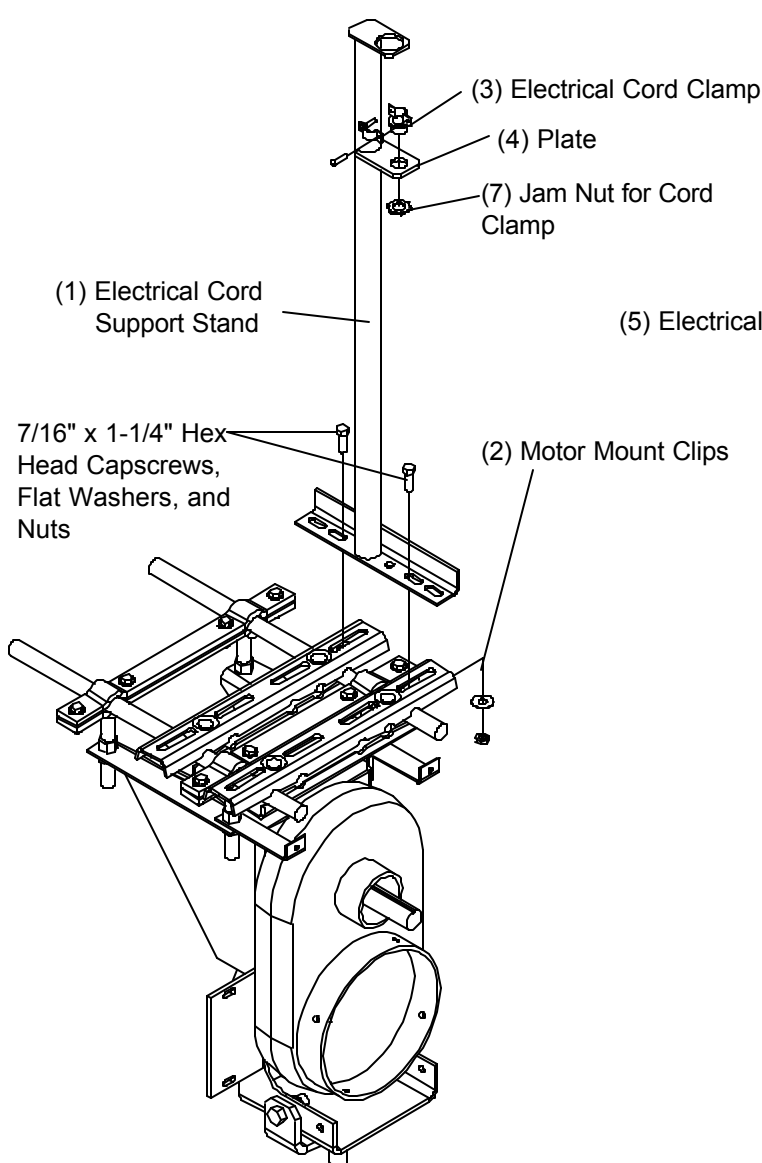

FIG. 4
1. Fasten electrical cord support stand (1) to top of the motor mount clips (2) with two 7/16" x 1-1/4" hex head capscrews, flat washers, and locknuts. (See Fig. 4)
2. Install electrical cord clamp (3) into plate on support stand (4). Secure in place with the jam nut (7) provided with the clamp. (See Fig. 4)